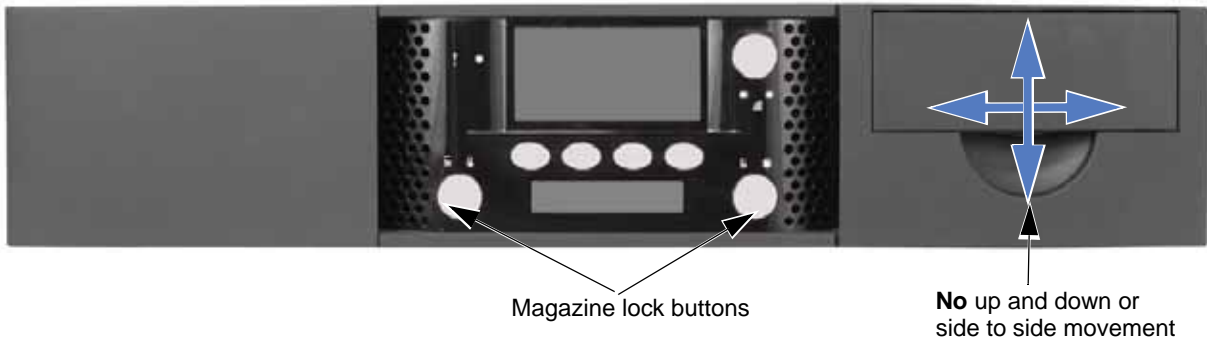

Figure 5-5 Magazine lock buttons
2. Press the magazine lock buttons shown in Figure 5-5.